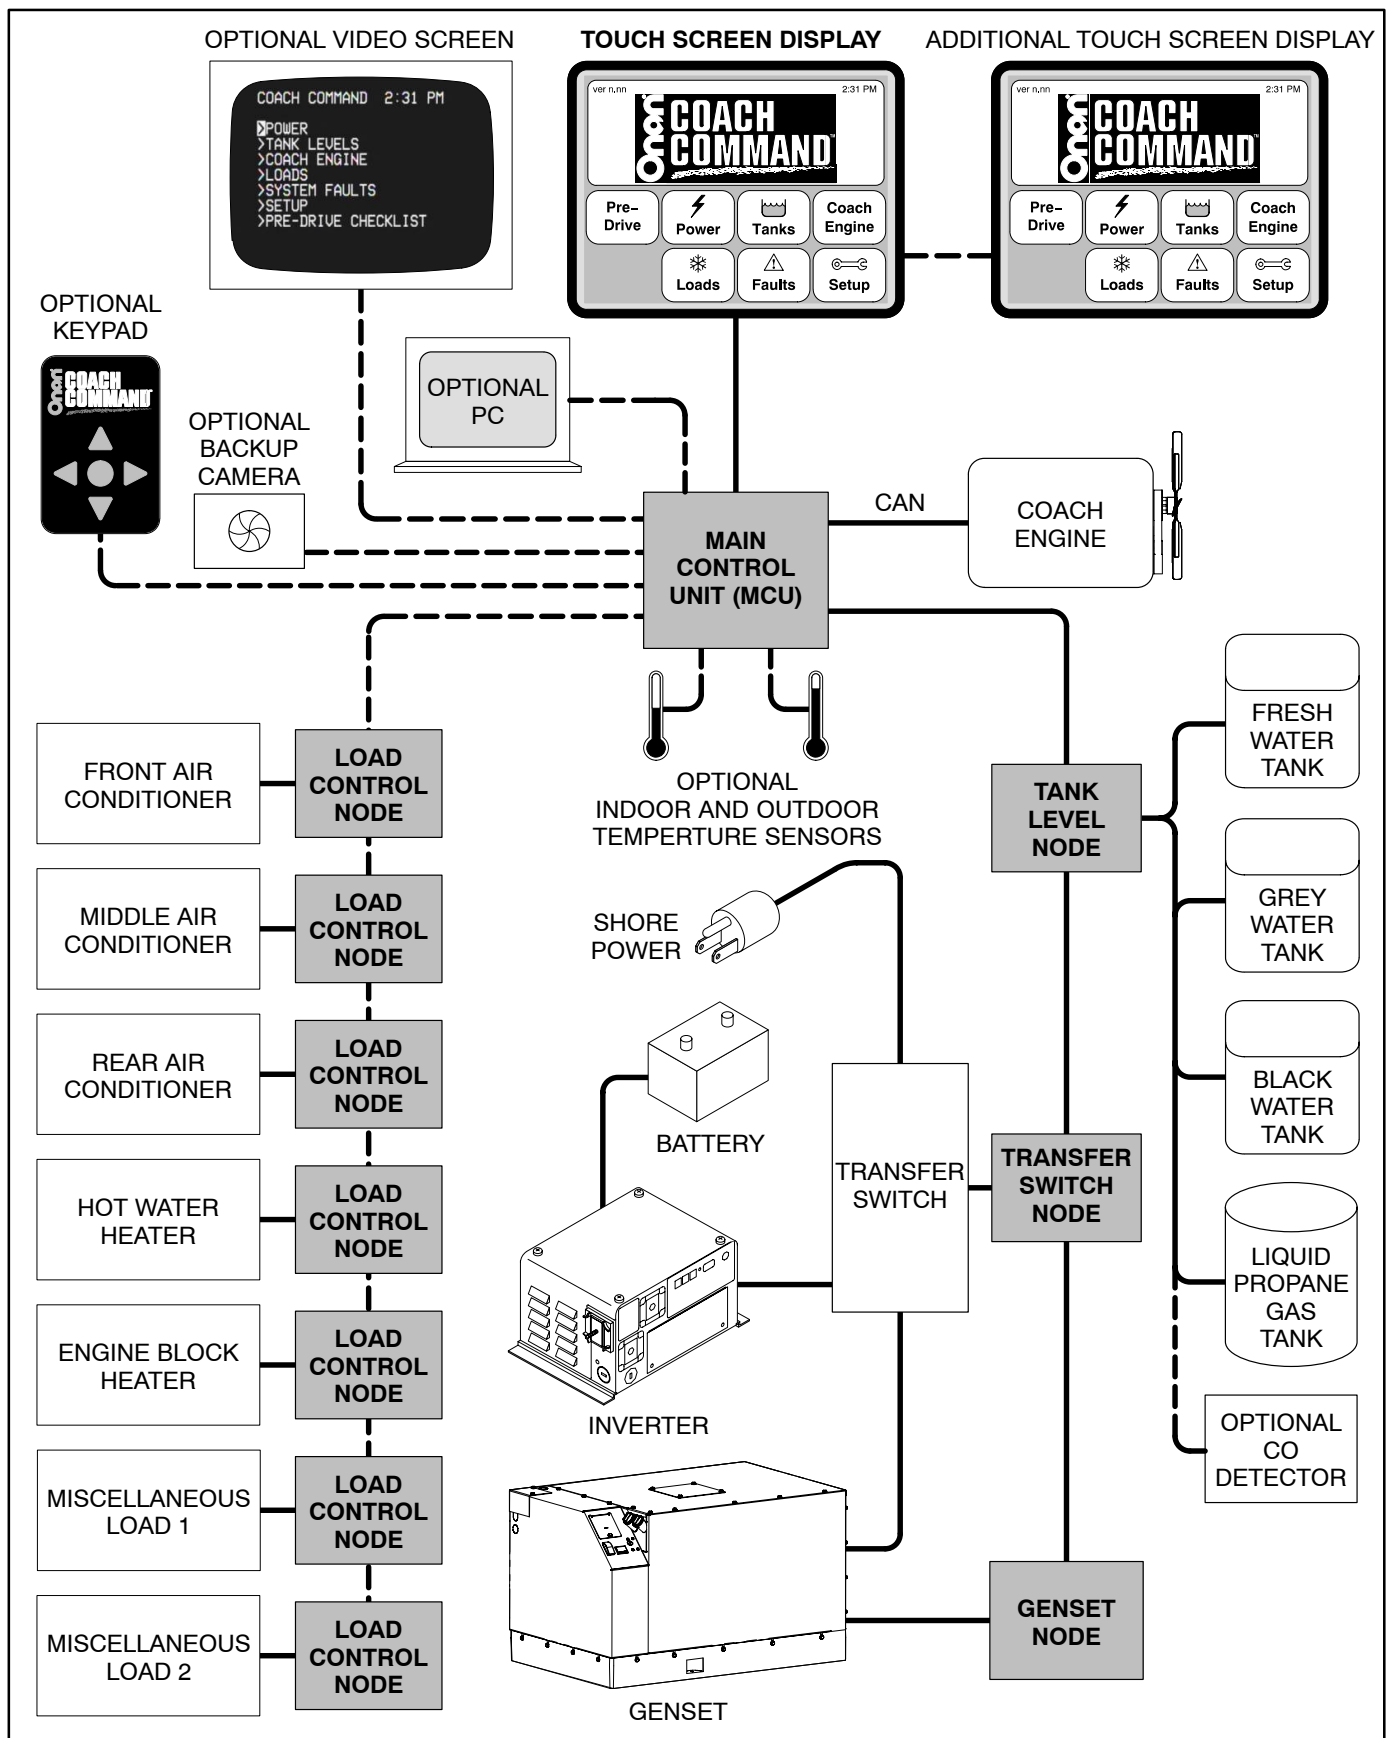
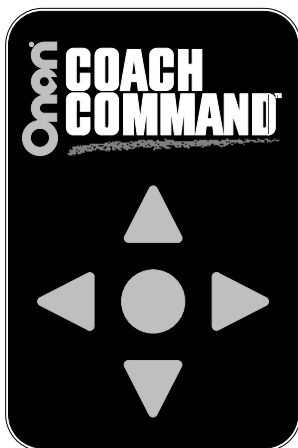

FIGURE 1. THE COACH COMMAND NETWORK
FIGURE 4. COACH COMMAND KEYPAD
Figure 1 illustrates the Coach Command network.
- Transfer Switch with a separate Transfer Switch Node – The transfer switch node contains the network power supply and provides the network with coach voltages, currents, and battery voltage. This option is shown in Figure 1.
- Primary Touch Screen Display – Standard display included with all Coach Command installations (see Figure 1 and Figure 3)
- Secondary Touch Screen Display – Optional display (see Figure 1 and Figure 3)
- Video Display and Keypad – Optional display (see Figure 1, Figure 4, and Figure 5)
The video display includes menus that display the same types of information as the primary touch screen display. The Coach Command keypad (see Figure 4) allows you to navigate through the menus and customize the setup of your system.